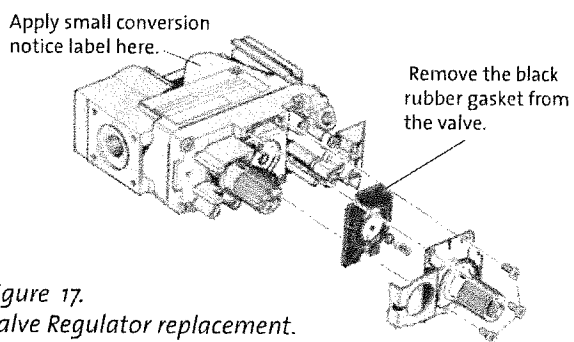

Figure 17. Valve Regulator replacement.
7. Change the Regulator: See Fig. 17.